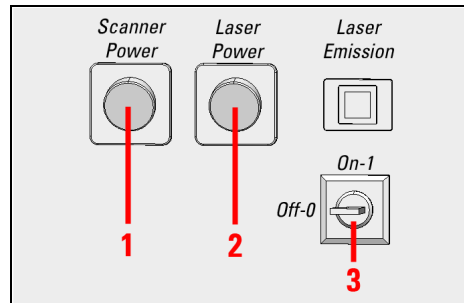

Figure 73: Overview of the Control Panel Field on the Compact Supply Unit
9. Switch on the scan head on the front side of the compact supply unit (see **Figure 73, item 1**).
10. Switch on the lasers on the front side of the compact supply unit (see **Figure 73, item 2**).
11. If your system has an infrared laser (MP) or an optical parametric oscillator (OPO), switch on these components as described in the manufacturer's respective user manual.
12. To switch on the laser in the supply unit, press the key switch on the front side of the compact supply unit (see **Figure 73, item 3**).